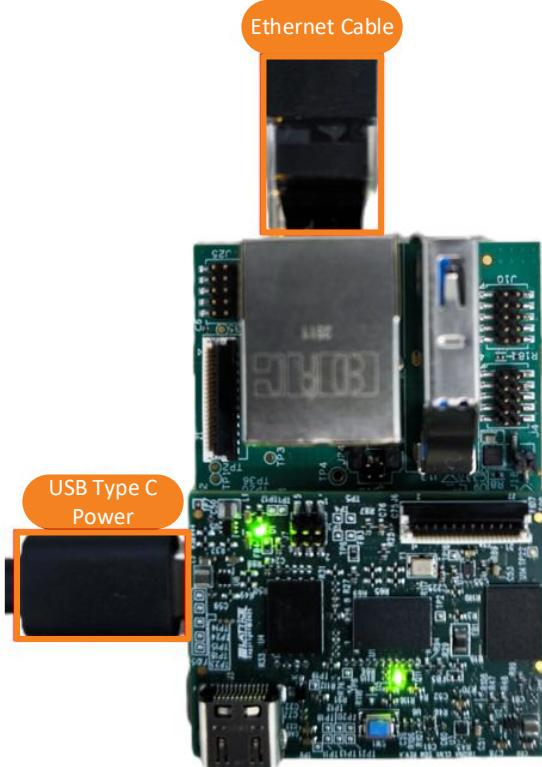

Figure 5.18. CrossLinkU-NX SoM with Ethernet Connection
1. Connect the CrossLinkU-NX SoM kit's LAN connection (as shown in Figure 5.18) to either the host PC or a router with DHCP enabled.